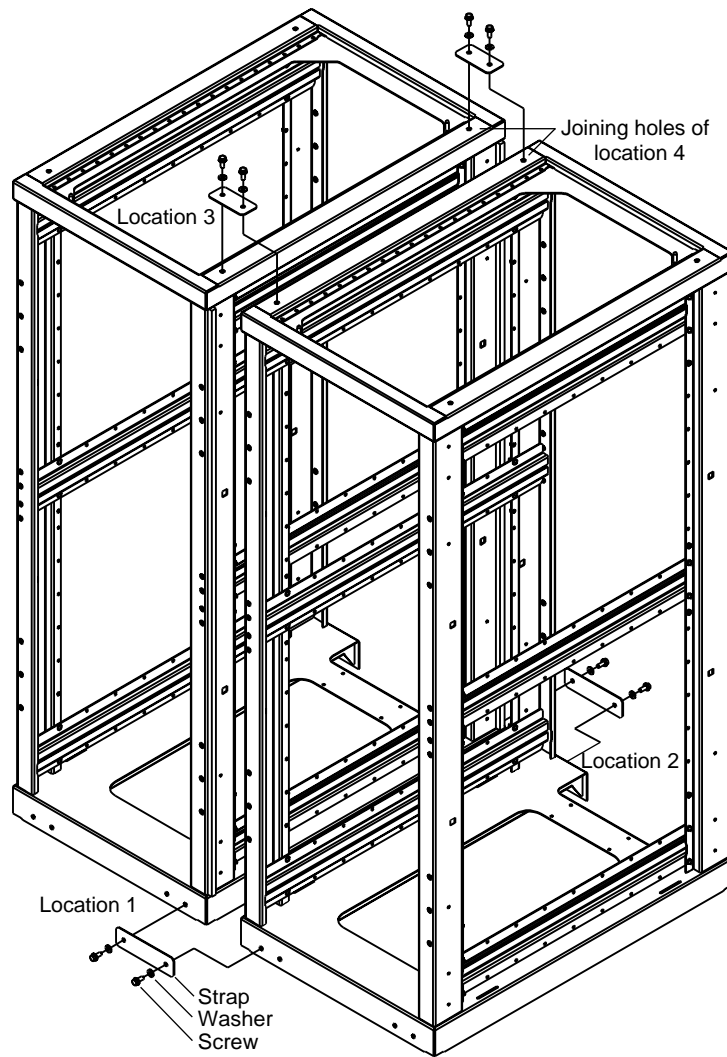

Figure C-10 Joining Locations
4. Using the leveling bolts of rack 002, adjust rack 002 so that the joining holes of rack 002 align with the joining holes of rack 001. See Figure C-10.
5. Using the provided straps, screws, and washers, bolt the racks together in the four designated locations shown in Figure C-10.